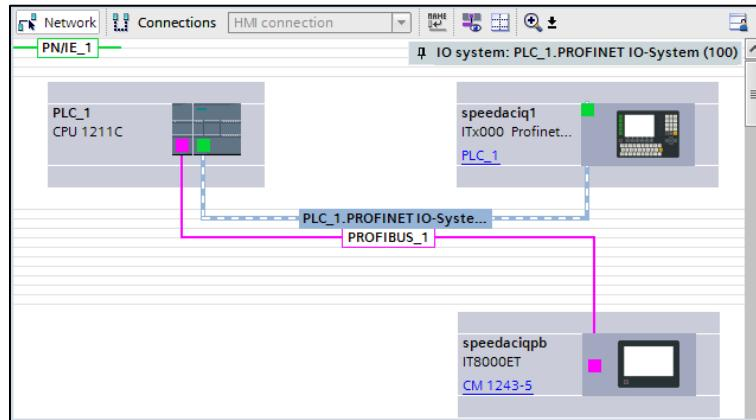

Figure 51: Network View of SpeedAC iQ with Profibus DP
- Add the SpeedAC iQ controller to your network and assign a name to this device (e.g: speedaciqb as per **Figure 51**).